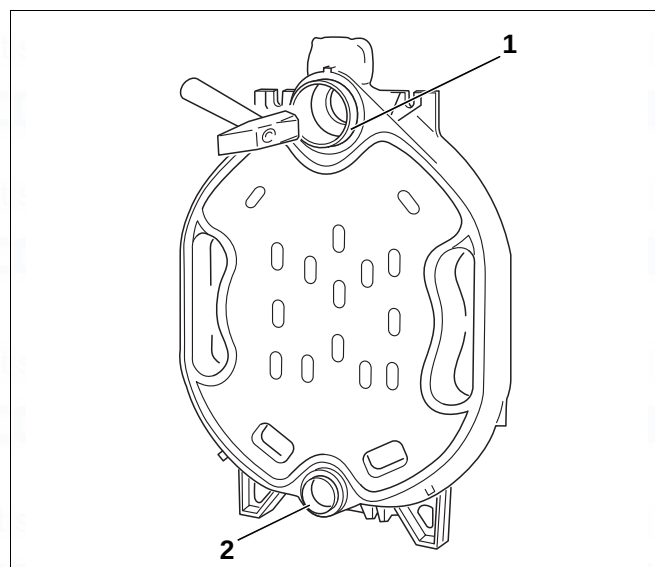

Fig. 9 Driving nipples home
- ▶ Insert the nipples straight into the upper (size 2, 119/50) and lower (size 0, 57/50) hub of the rear section and hammer home securely with alternate heavy blows. The upper nipple (Fig. 9, [1]) and the lower nipple (Fig. 9, [2]) should protrude approx. 28 mm out of the corresponding hub once they have been driven in.